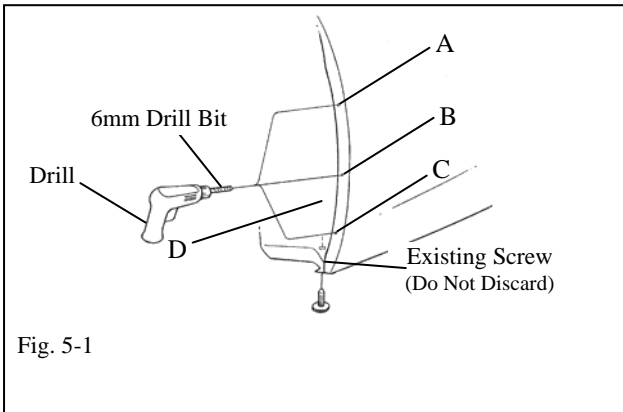

Fig. 5-1
-  (a) Remove existing screw location D. Do Not Discard (Fig. 5-1)
- (b) Pull bumper cover out at bottom and drill 6mm holes at dimple locations A, B and C. Then reposition bumper cover. (Fig 5-1)